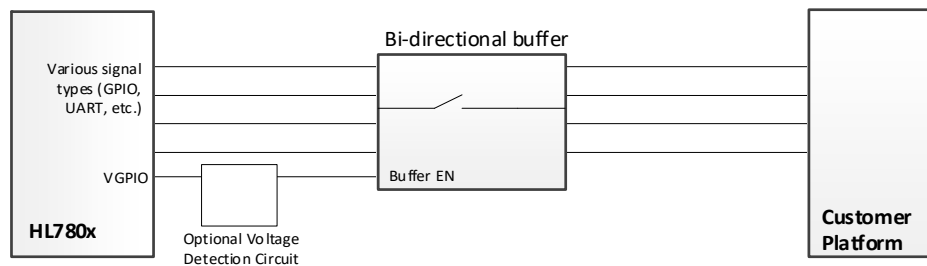
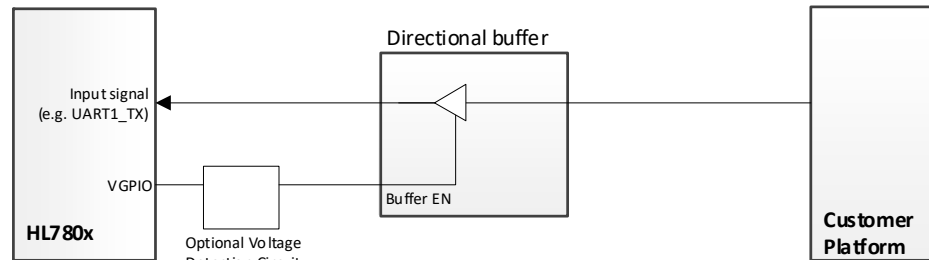

Figure 6-3: Example—Buffer – Bidirectional Signal
Figure 6-4: Example—Buffer – Directional Signal
- Bidirectional (Input/Output) signals — For module I/O signals (e.g. GPIOs), an analog switch that can tri-state both the output and the input can be used (e.g. Texas Instruments TMUX1511). As shown in Figure 6-3, I/O signals connected to the buffer will be tri-stated.
- Directional (Input) signals — For module inputs (e.g. UART1\_TX), a logic buffer with output tri-state mode can be used (e.g. Texas Instruments SN74LVC1G126). As shown in Figure 6-4, the signal is controlled and, when disabled, the output signal is tri-stated.
To ensure faster detection of VGPIO transitions, Sierra Wireless recommends adding an optional voltage detection circuit (as shown in Figure 6-3 and Figure 6-4) to monitor and detect the transition low, and then control (enable/disable) the associated buffer circuit.